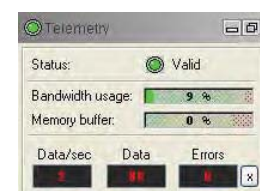

Figure 3-3 Telemetry panel
6. Press the **Record** button in the **Acquisition** panel (**Figure 3-3**), specify a file name and start the logging.